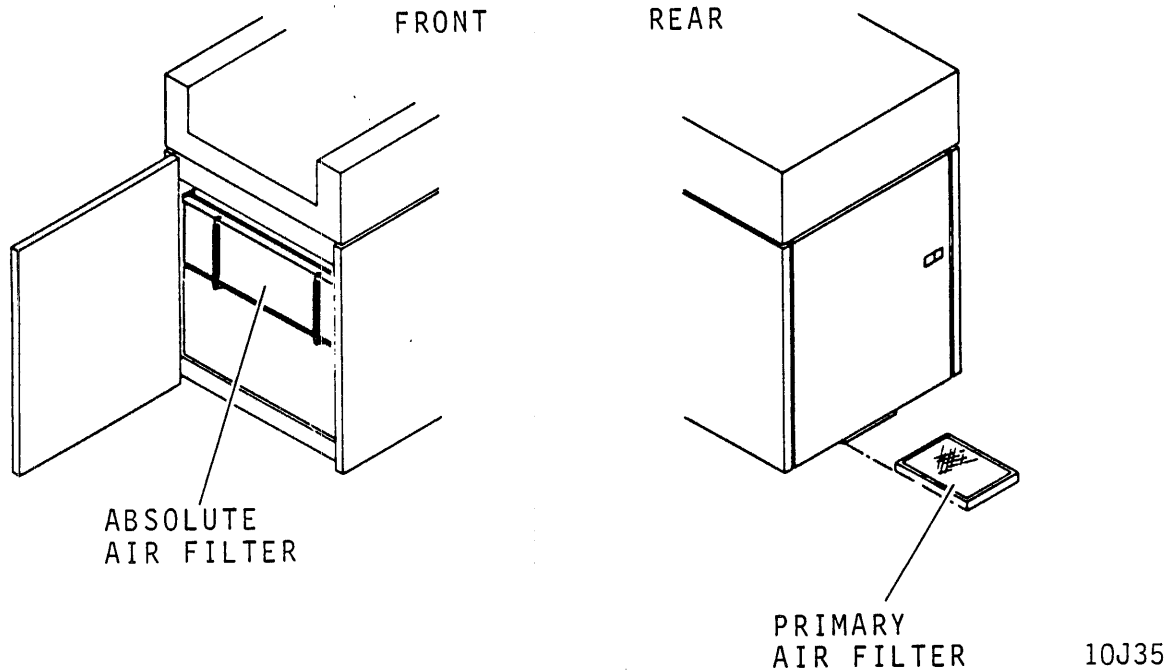

Figure 3-1. Air Filters
This procedure describes cleaning the primary air filter. This filter is located in a bracket located at the bottom rear of the drive (refer to figure 3-1).
3. Remove air filter by pulling it out of its bracket (refer to figure 3-1).